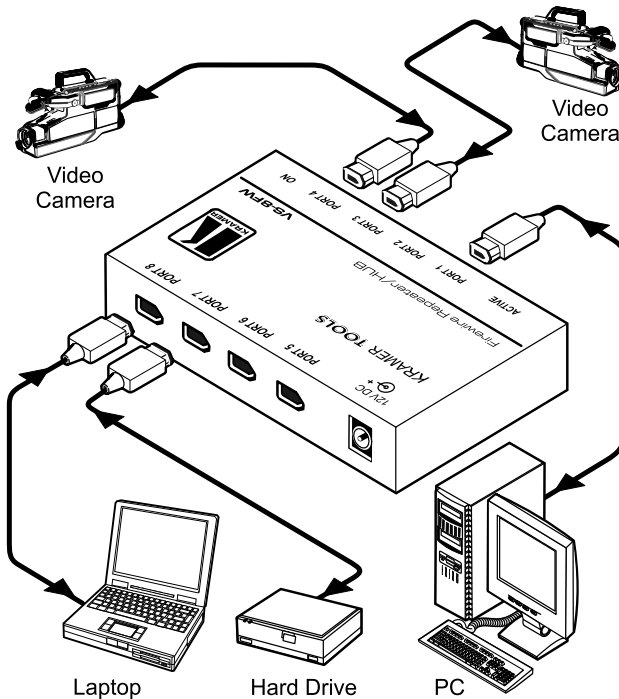

Figure 4: Connecting the VS-8FW FireWire Repeater / HUB
To use the **VS-8FW**¹ *FireWire Repeater / HUB*, as the example in Figure 4 illustrates, do the following²:
2. Connect the 12V DC power adapter to the power socket and connect the adapter to the mains electricity (not shown in Figure 4).